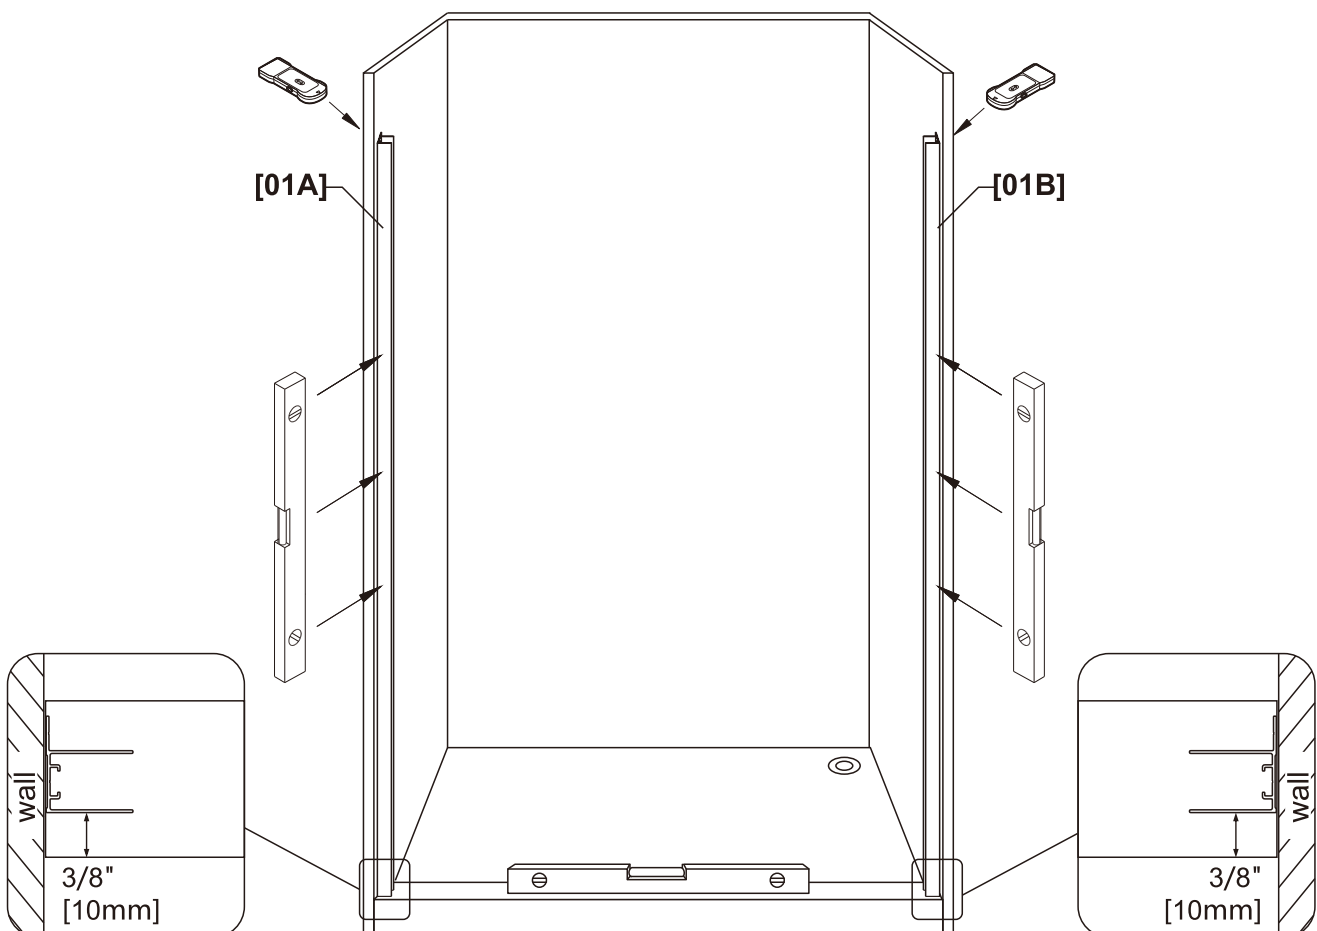

Fig 1
IMPORTANT: Using a stud finder, ensure the wall intended to hold the door has a stud at the installation point. If there is no stud in the shown area, we recommend employing a qualified contractor to install one. (Fig 1)
3. Using a level, position the **Wall Post L [01A]** and **Wall Post R [01B]** on the threshold. (Fig 1)